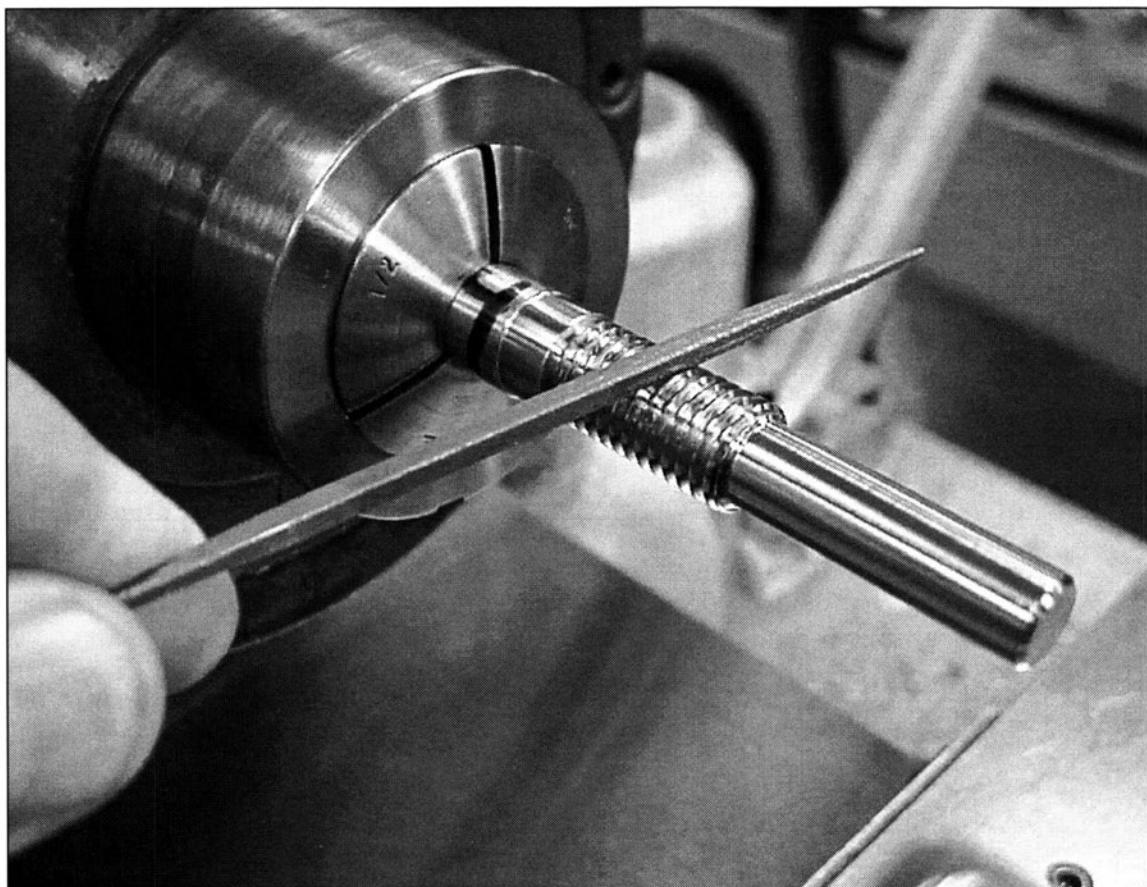

FIGURE 8-13 A damaged thread is cleaned up with a 60° triangular file.
24. *Use a sixty degree triangular file to clean up damaged threads. (See Fig. 8-13)*